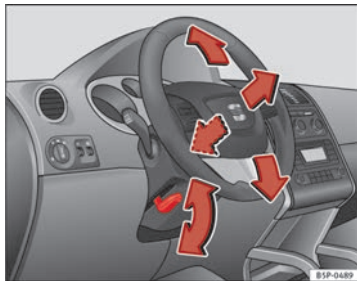

Fig. 136 Adjusting the steering wheel position
- Push the lever under the steering column ⇒ fig. 136 down ⇒ ⚠.